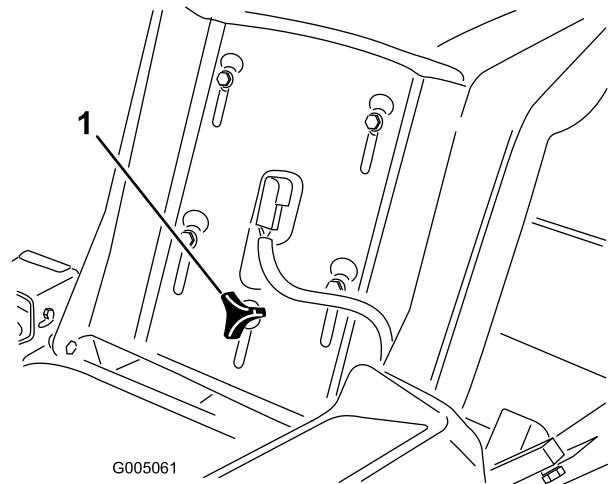

Figure 15
1. Raise the seat and loosen the adjustment knob just enough that seat can move (Figure 15).